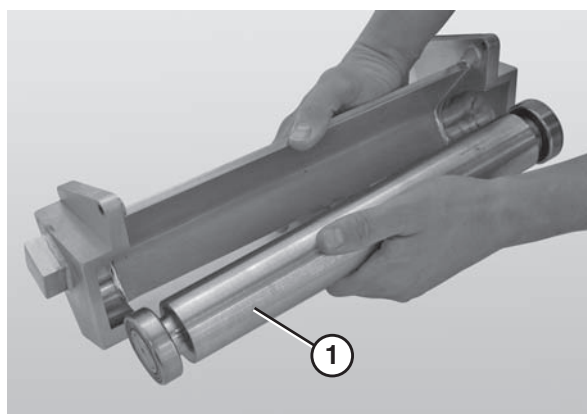

Figure 80
6. Remove the nose bar return spindle (**Figure 80, item 1**).